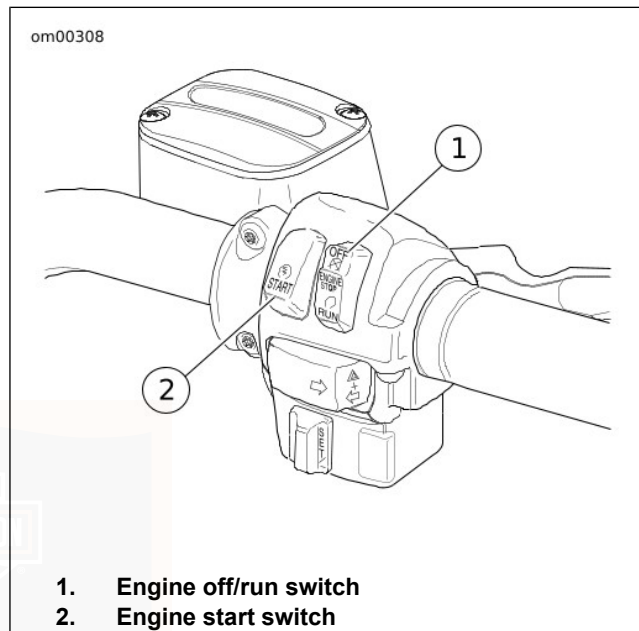

Figure 44. Right Handlebar Controls: Touring Models (typical)
2. See Figure 44. Turn the off/run switch to RUN position.